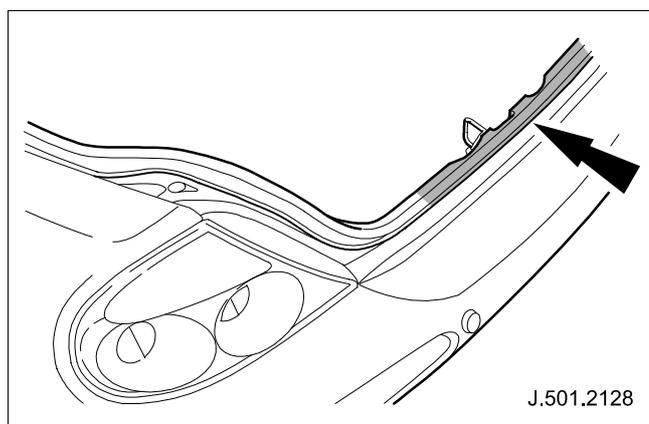

Fig. 23
- 2 Luggage compartment seal. (See Fig. 23)